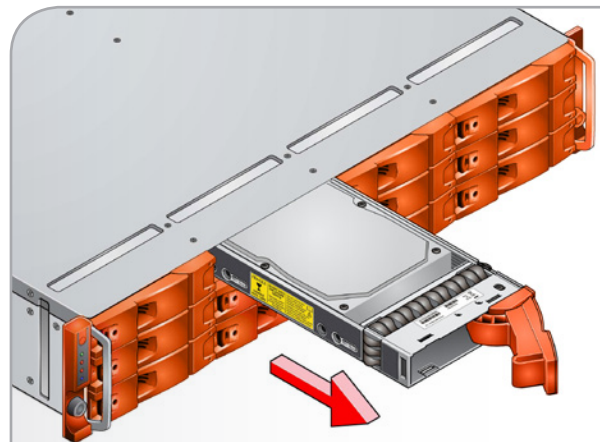

Fig. 42 - Removing a Drive Carrier Module (step 3)
3. Withdraw the carrier from the drive bay (Fig. 42).